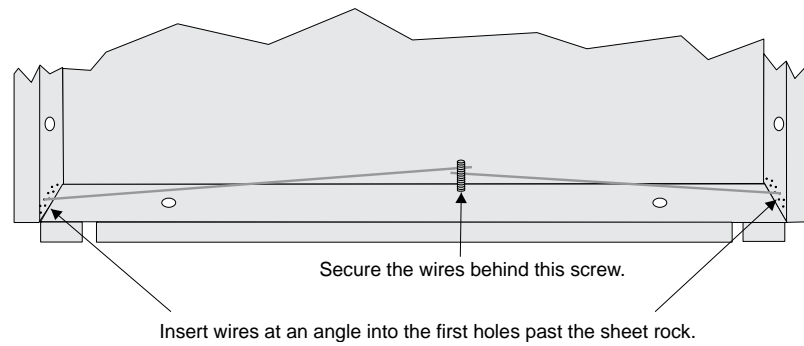

Figure 4.24 Flush Mounting the Back Box
3. Fit the annunciator back box into the hole and stabilize with mounting wires. Angle the mounting wires into the first hole past the sheet rock. Secure the wires behind the screws as shown in Figure 4.24. When all four wires are in place, the back box should fit snugly into the hole in the sheet rock.